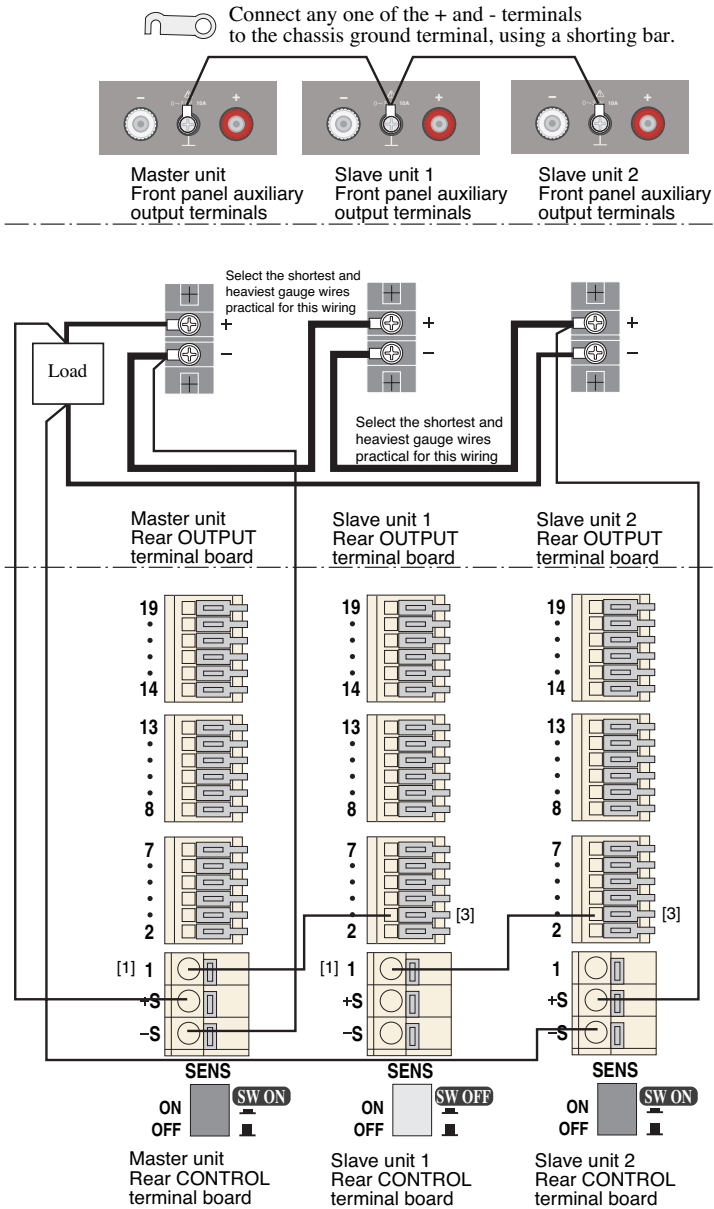

Fig.4-19 Connection for master-slave-control series operation using sensing
6. Connect the master unit and slave units shown in Fig.4-18. Fig.4-18 shows an example of how the rear output terminals are connected in series for two slave units. When performing remote sensing in master-slave-control series operation, see Fig.4-19.